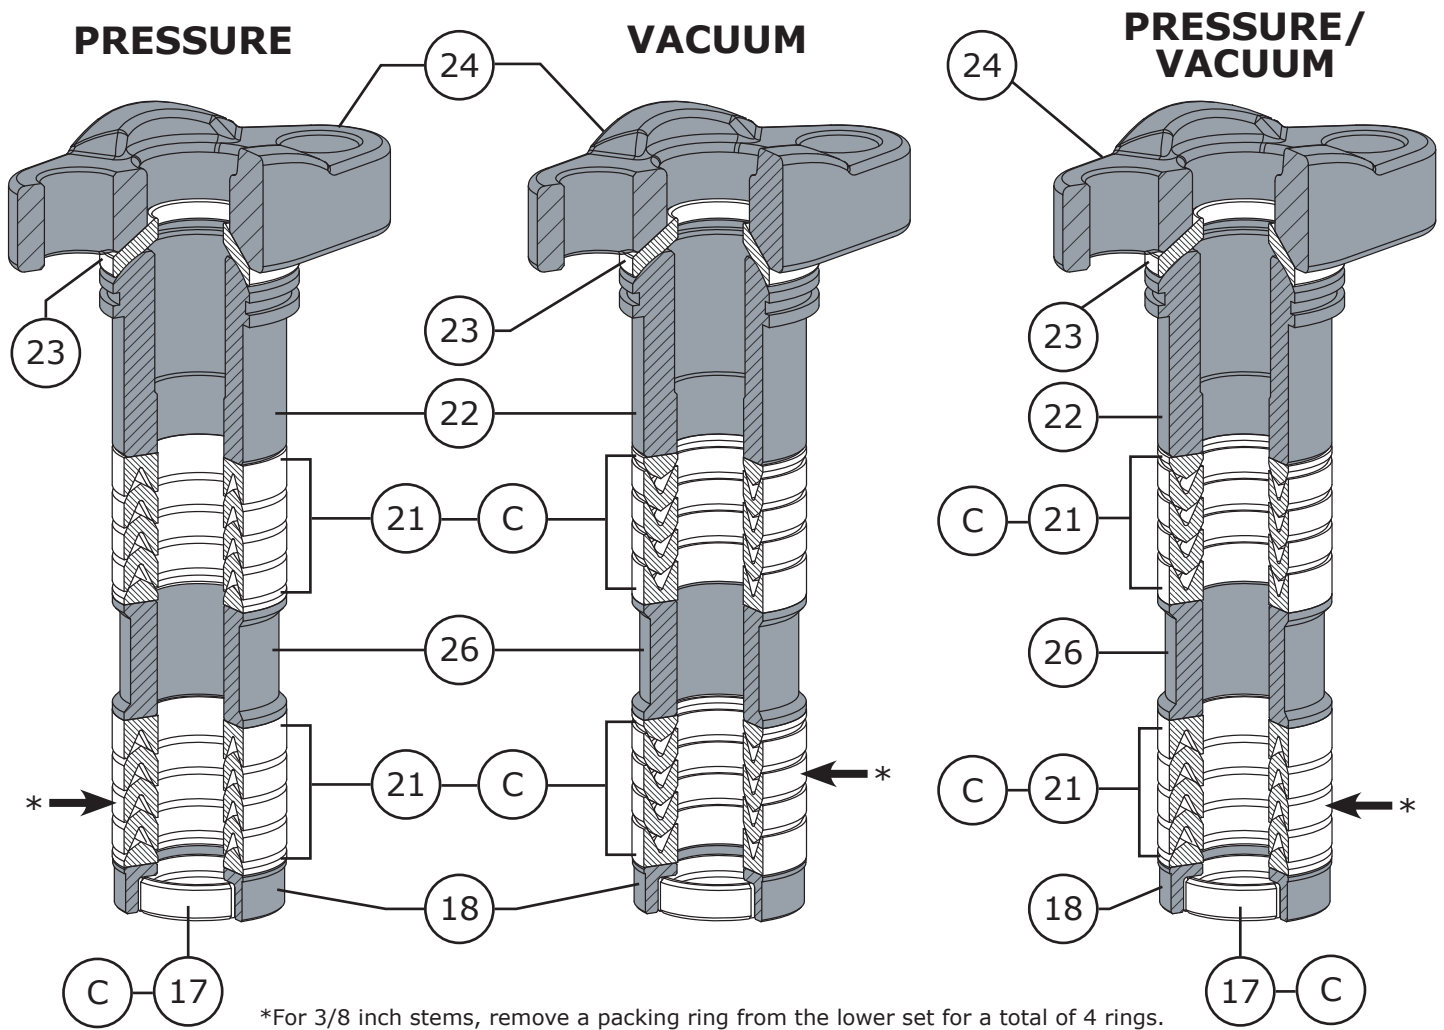

Figure 28 390 Series Control Valve PTFE Packing Diagrams
- 2 Apply silicone-based o-ring compound (Key C) to the first set of packing rings (Key 21). Install the packing rings one ring at a time (as shown in Figure 25) in the proper order and orientation as shown in Figure 28. **NOTE:** For 3/8" (9.5 mm) valve stems, remove a packing ring from the middle of the packing set. **WARNING:** For oxygen service do not apply silicone-based o-ring compound, silicone-based compound in oxygen service applications can cause an explosion.
- 4 Apply silicone-based o-ring compound (Key C) to the second set of packing rings (Key 21). Install the packing rings one ring at a time (as shown in Figure 25) in the proper order and orientation as shown in Figure 28. **WARNING:** For oxygen service do not apply silicone-based o-ring compound, silicone-based compound in oxygen service applications can cause an explosion.